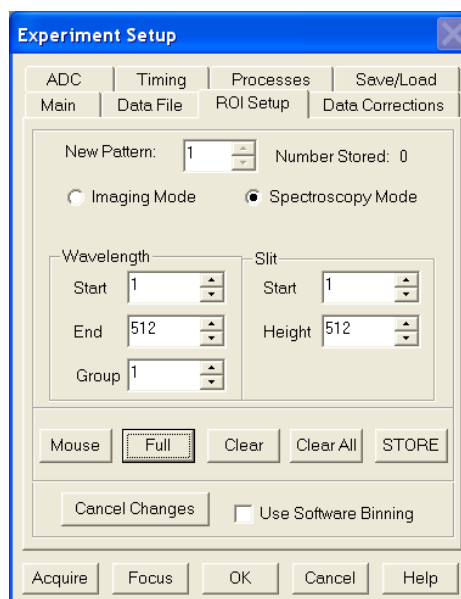

Figure 33. ROI dialog
- On the **ROI** tab select **Spectroscopy Mode** as shown in Figure 33. The **Use Full Chip** selection on the **Main** tab overrides any ROI settings that may be present.